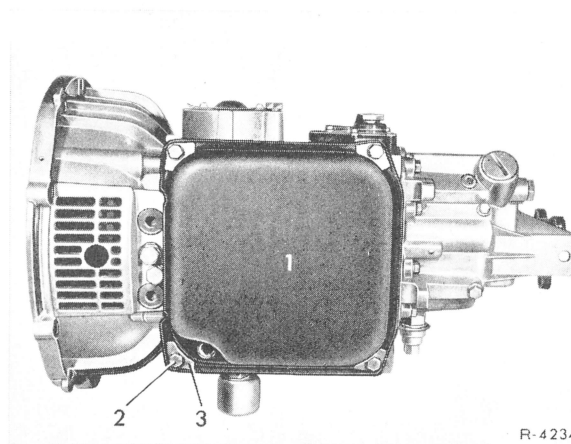

Fig. 80
**106** Mount oil pan (1) with new gasket, screw-in fastening bolts (2) with shims (3) and tighten to 7 Nm (0.7 kpm) (Fig. 80).